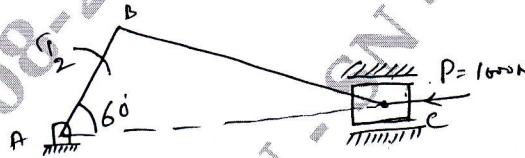

Fig.Q1(b)
- b. A slider crank mechanism is shown in Fig.Q1(b). The force applied to the piston is 1000N when the crank is at 60° from IDC. Calculate the driving torque T_2 .